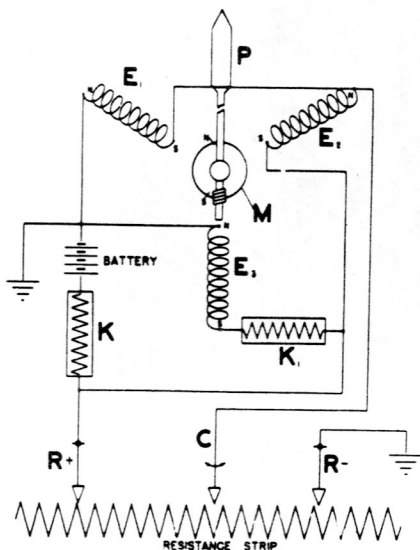

Figure 44—Circuit Diagram for Indicator and Tank Unit
(1) In order to describe clearly the operation of the gauge, see Figure 44, wherein is schematically drawn, a complete circuit of both the tank unit and indicator. Coils E 1, E 2 and E 3 are shown equi-distant surrounding M, which represents the iron rotor and whereupon is mounted pointer P. The lower section shows a resistance strip and the adjustable contacts R+ and R—, through which the current is supplied to the resistance strip. C represents the contact wiper arm which moves across the strip. K is a limiting resistor. K 1 is a scale control resistor. The battery may be 12 or 24 volts, which in turn decides the value of limiting resistor K.